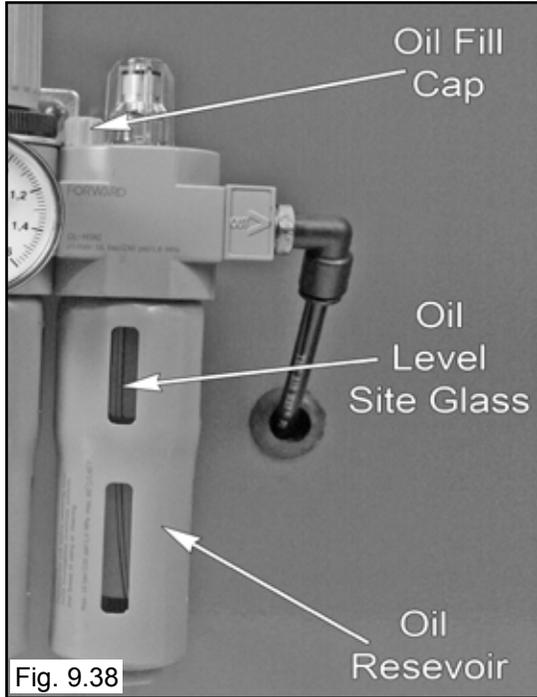

Fig. 9.38
3. The Oil Reservoir is filled by unscrewing the Oil Fill Cap. The Oil Level should remain in the Upper Sight Glass when Full. (See Fig. 9.38)